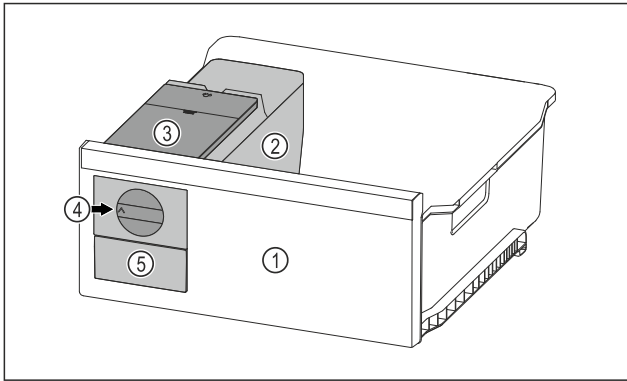

Fig. 99 Example illustration
- ▶ Turn the rotary knob Fig. 99 (4) clockwise as far as it will go.
▷ Ice cubes fall from the ice cube tray into the ice cube drawer Fig. 99 (5).